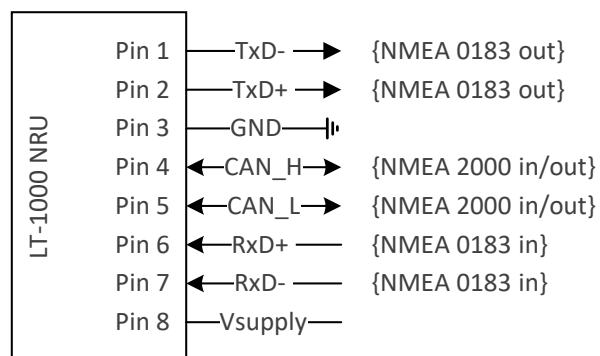

FIGURE 30: TRANSMIT AND RECEIVE DIRECTIONS FOR THE LT-1000 NRU.
**NOTE:** To avoid any misinterpretation, the transmit (Tx) and receive (Rx) directions are illustrated in Figure 30, relative to the LT-1000 NRU.